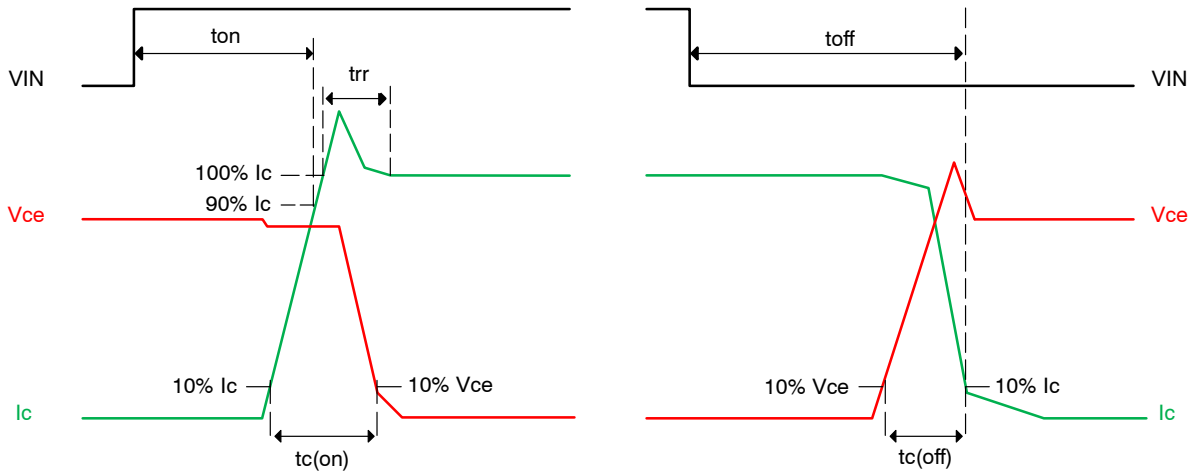

Figure 3. Switching Time Definitions
| HS | ton | High Side Switching Times | VPN = 600 V, VDD = 15 V, Ic = 30 A Tj = 25 °C, Inductive Load Switching See Figure 3, 23, 24 (Note 4) | 1.00 | 1.30 | 1.90 | μs |
4. ton and toff include the propagation delay of the internal drive IC. tc(on) and tc(off) are the switching times of IGBT under the given gate-driving condition internally. For the detailed information, please see Figure 3.